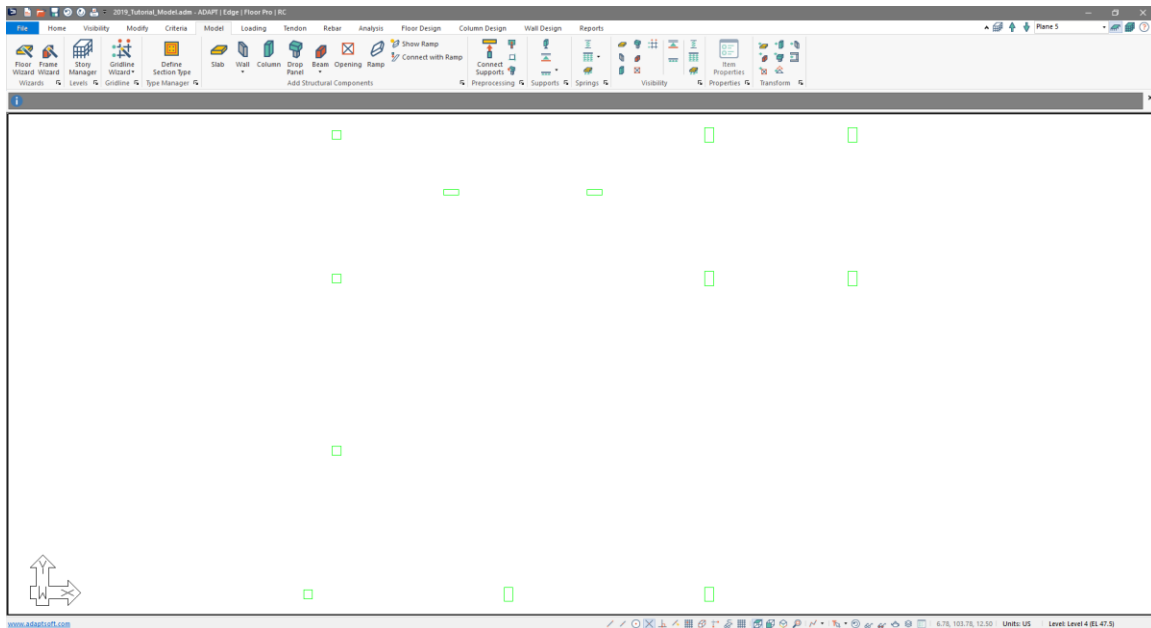

Figure 4-11
- Click on the **OK** button, the user should now see the polylines representing the columns from the imported DWG as shown in **FIGURE 4-11**.